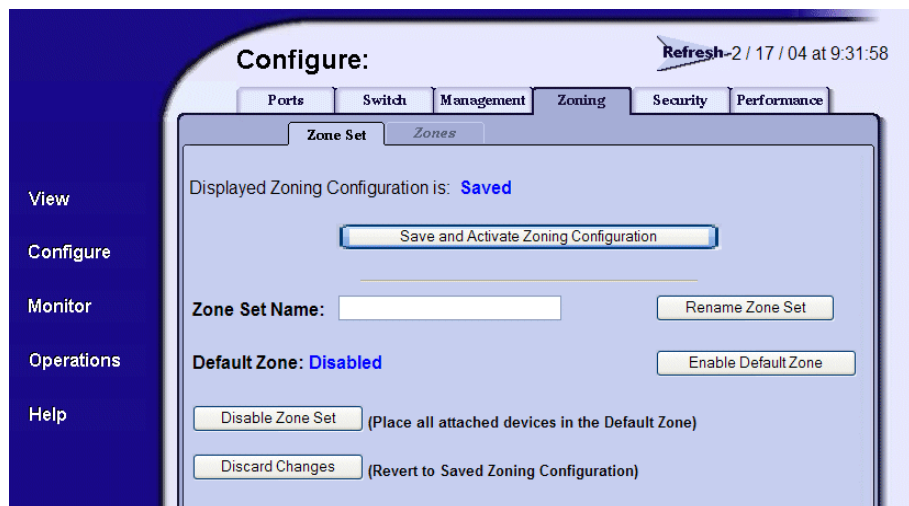

Figure 25: Zone Set tab view
2. Choose the **Zoning** tab and the **Zone Set** tab. The **Zone Set** tab view displays (Figure 25).